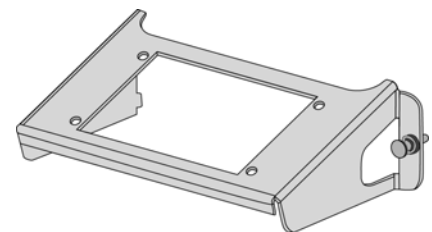

Figure 2
- Single bay horizontal mounting bracket (P/N AC1007) included for mounting in On-Q style enclosure (see **Figure 2**)